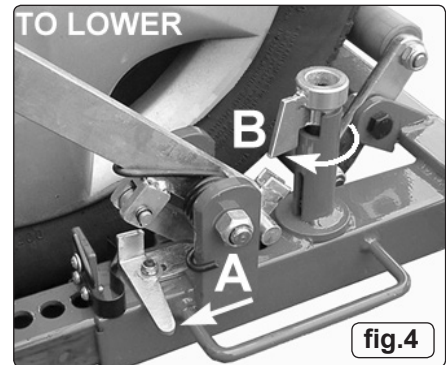

fig.4
4.6.1. Disengage the ratchet by turning the the ratchet lever to the left. See fig.4 - A(TO LOWER)
4.6.2. Turn the locking pin tab clockwise in its slot so that it is in line with the small 'U' shaped channel at the bottom of the foot pedal lever. See fig.4 - B. (TO LOWER)